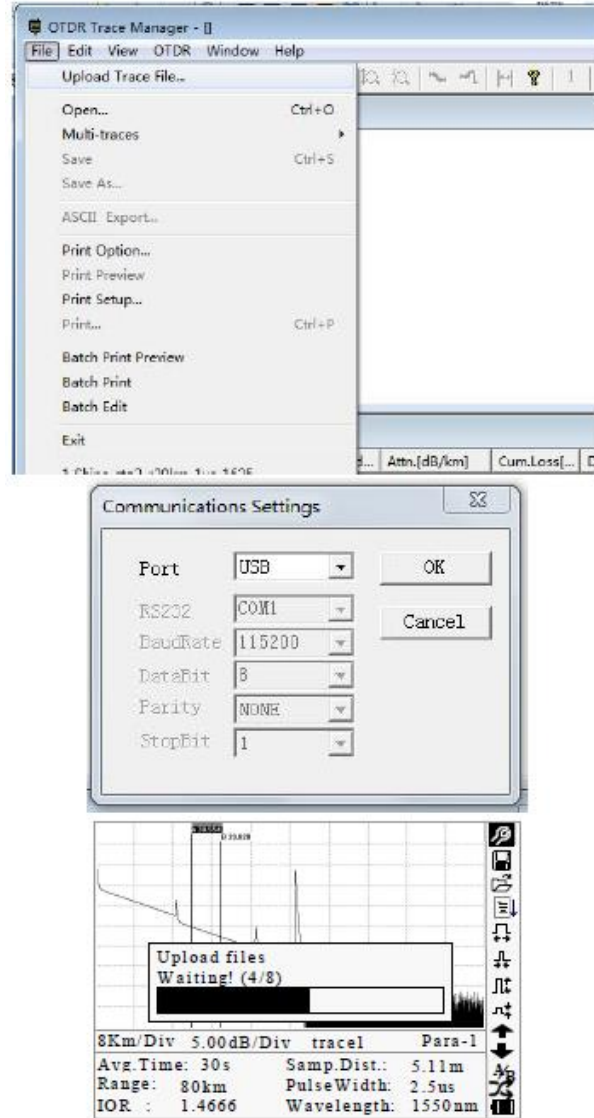

Figure 4-7. Upload Saved Traces
- 4) Power on OTDR, and upload data with the software. The whole process is as in Figure 4-7.